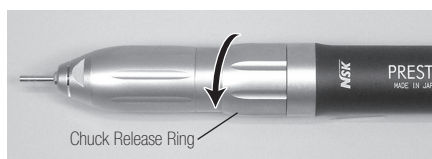

Fig. 9
- 2) When removing the bur, it can be removed by turning the chuck release ring in the direction of the arrow in Fig.9.